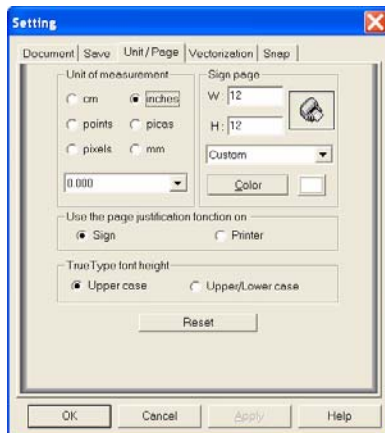

Figure 45
- 3 Change the page size. See figure 45.